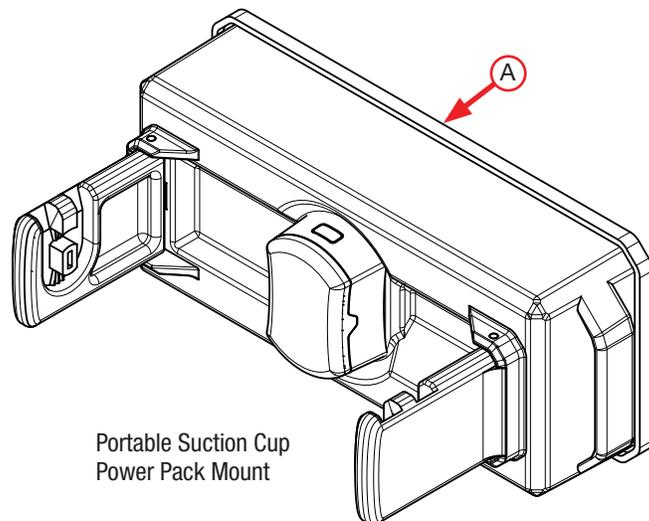
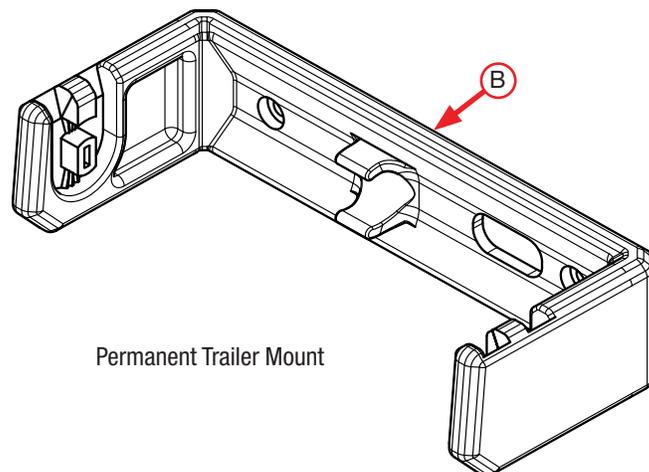

Fig. 2
Fig. 3
3. Identify suitable mounting locations for both the portable suction cup power pack mount (A) (Fig. 2) or permanent trailer mount (B) (Fig. 3). Ensure they meet specified criteria, such as flat, clean surfaces and minimal obstructions.
7. Identify a convenient and accessible power source in the vehicle or cab for connecting the camera interface (C). Consider using a USB-C port or a 12v car lighter adapter (I).